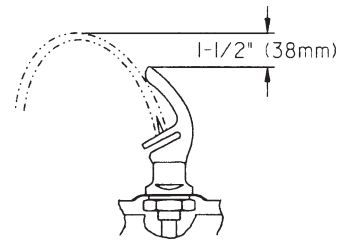
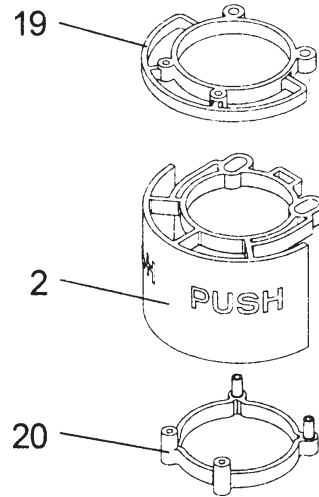
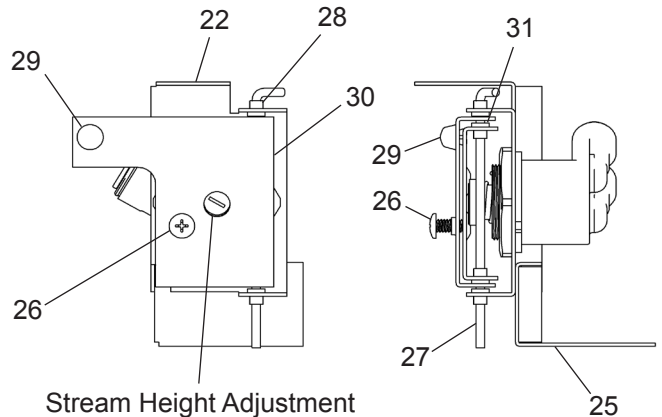

Figure 16 – Stream Height
Figure 23 – Push Arm Mechanism
Figure 24 – Regulator Mounting Mechanism
10. **Check stream height from bubbler.** Stream height is factory set at 35-40 PSI. If supply pressure varies greatly from this, remove items 2, 19, and 20 (push arm and the bottom and the top actuator plates – Figure 23) by removing the screws holding assembly together and adjust the screw on the regulator (Item 14 – Figs. 24 & 25). Clockwise adjustment will raise stream height and counterclockwise movement will lower stream height. For best adjustment, stream height should be approximately 1-1/2" (38mm) above the bubbler guard. (See Figure 16).
11. **Mount lower panel.** Loosen the two (2) #10-24 x 5/8" (16mm) screws at frame bottom lip. Slide upper tongue of lower panel under lower edge of already installed upper panel. Tighten previously loosened screws securely.